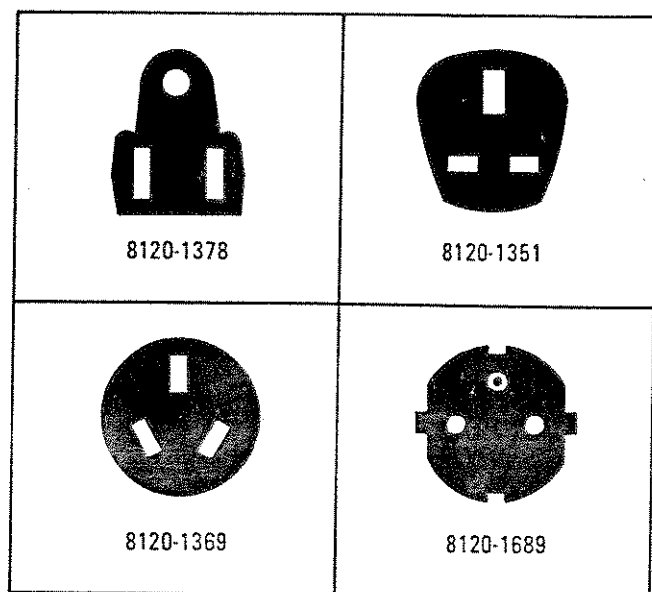

Figure 3. Power Cable HP Part Nos. and Associated Plugs
30. In accordance with international safety standards, this instrument is equipped with a three-wire power cable. When connected to an appropriate ac power receptacle, this cable grounds the instrument cabinet. The type of power cable plug shipped with each instrument depends on the country of destination. See Figure 3 for the part numbers of the power cable plugs available.